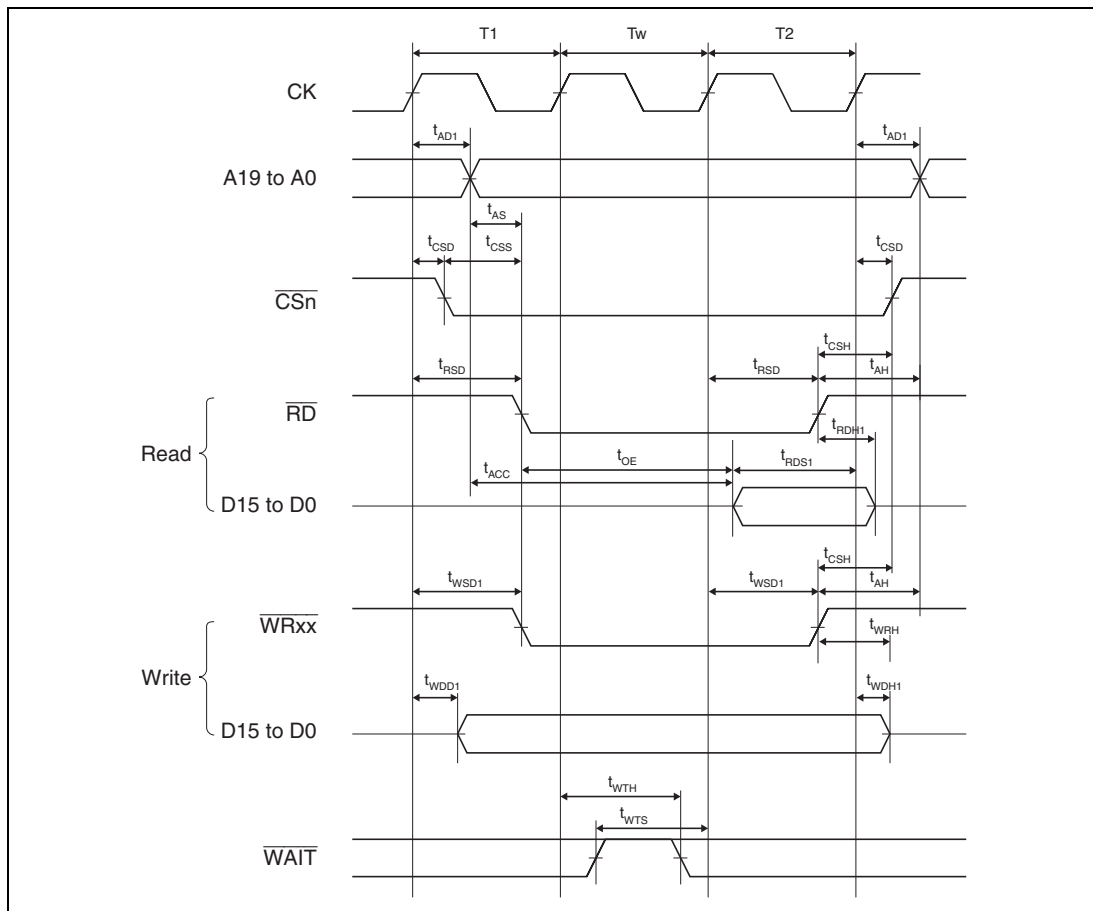

Figure 24.12 Basic Bus Timing for Normal Space (One Software Wait Cycle)
| WAIT setup time | t_{WTS} | $1/2t_{Bcyc} + 17$ (18) ^{*3} | — | ns | Figures 24.12 to 24.15 |
| WAIT hold time | t_{WTH} | $1/2t_{Bcyc} + 7$ (18) ^{*3} | — | ns | Figures 24.12 to 24.15 |